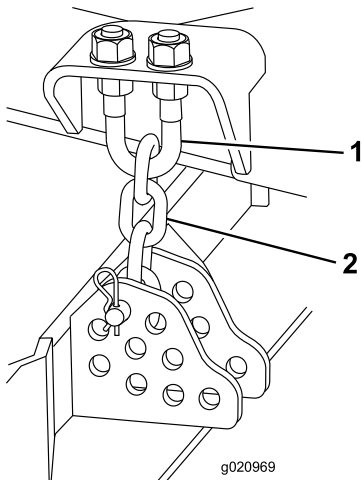

Figure 77
1. Loosen the jam nuts on the top or bottom of the height-of-cut-chain U-bolt (Figure 77).